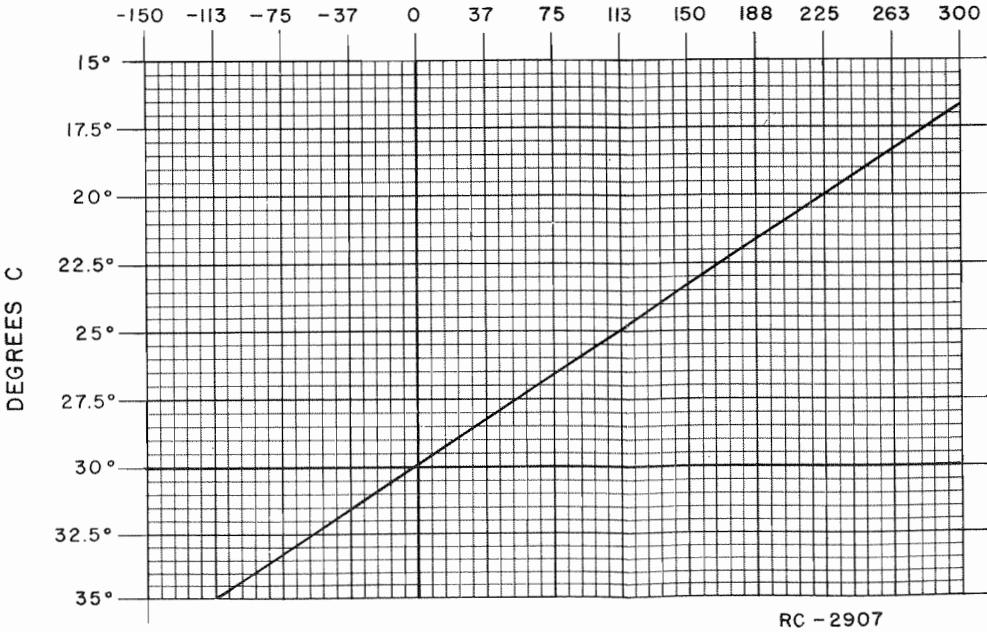

Figure 3 - Frequency Characteristics Vs. Temperature
To set crystal frequency using "beat frequency" method, the temperature should be at 30°C (86°F). If the temperature is not 30°C, then offset the "ON FREQUENCY" signal (at the receiver's input), as a function of actual temperature, by the frequency ERROR FACTOR shown in Figure 3.
2. Maintain the radio at 30°C ($\pm 5^\circ\text{C}$, -10°C) and offset the oscillator, as a function of actual temperature, by the frequency error shown in Figure 3.